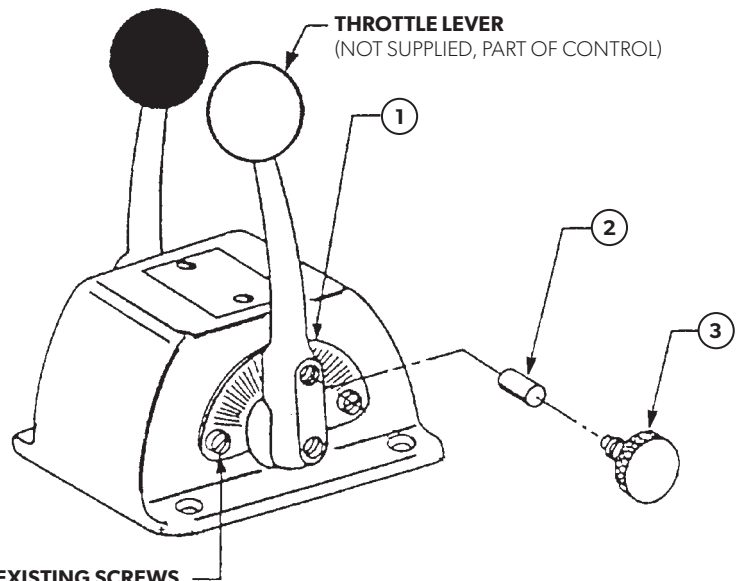

Figure 1.
- 3.** Install the friction plate (item 1) as shown in figure 1 to the open hole, insert existing screw, and tighten.
- 4.** Now remove the other side screw, rotate the friction plate (item 1) over the hole, re-insert the screw and tighten.
- 5.** Install the nylon friction pin (item 2) into the top hole of the throttle lever.
- 6.** Screw the friction adjustment knob (item 3) into the top hole of the throttle lever. Adjust as instructed previously.